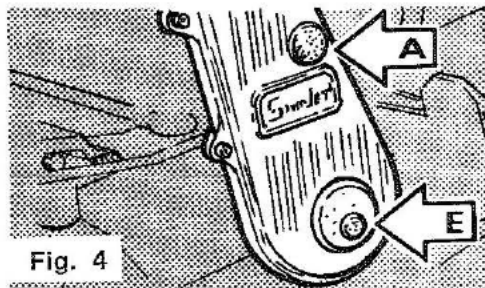

Fig. 4
With track off the ground, remove the inspection plug Fig. 4 (A). While rotating the converter pulley in clockwise direction, there should be 1/4" of free play in the chain.
To check the oil level, remove the oil level plug Fig. 4 (E). If oil is not visible, fill with Sno*Jet chain lubricant through inspection plug Fig. 4 (A).